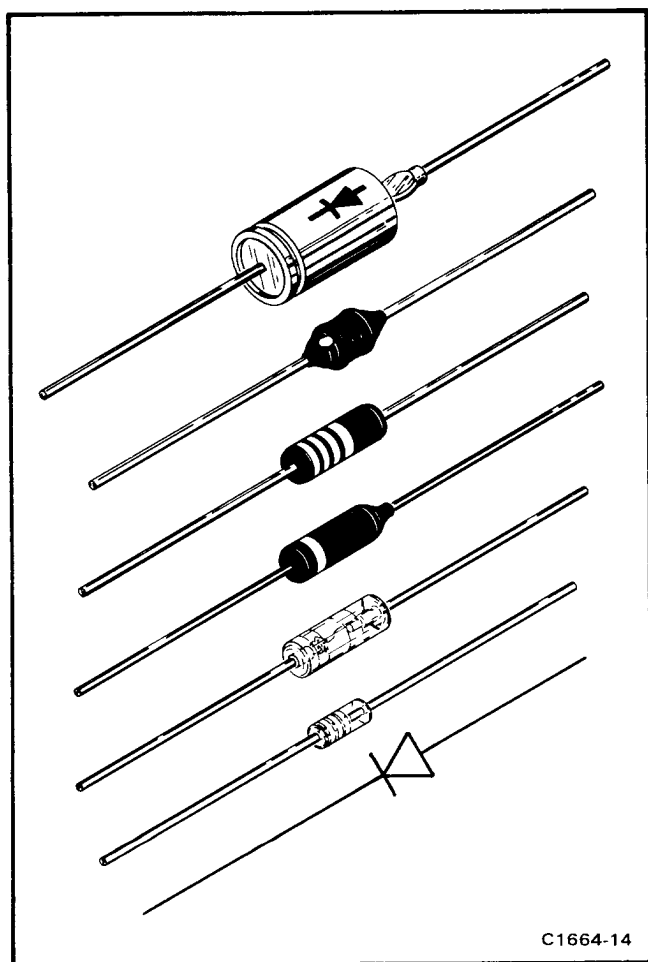

Fig. 4-3. Diode polarity markings.
Diode Color Code. The cathode of each glass encased diode is indicated by a stripe, a series of stripes, or a dot. Some diodes have a diode symbol printed on one side. Figure 4-3 illustrates diode types and polarity markings that are used in this instrument.
d. Use only good components for substitution and be sure the new component is inserted into the socket properly before soldering. Refer to the manufacturer's data sheet or Fig. 4-3 for lead configuration.